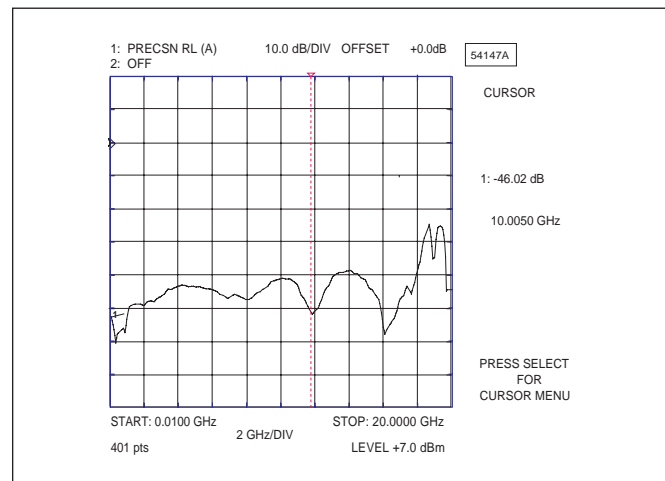

Figure 8. Direct Readout of the Precision Return Loss
22. Observe that the waveform displayed resembles that shown in Figure 8.